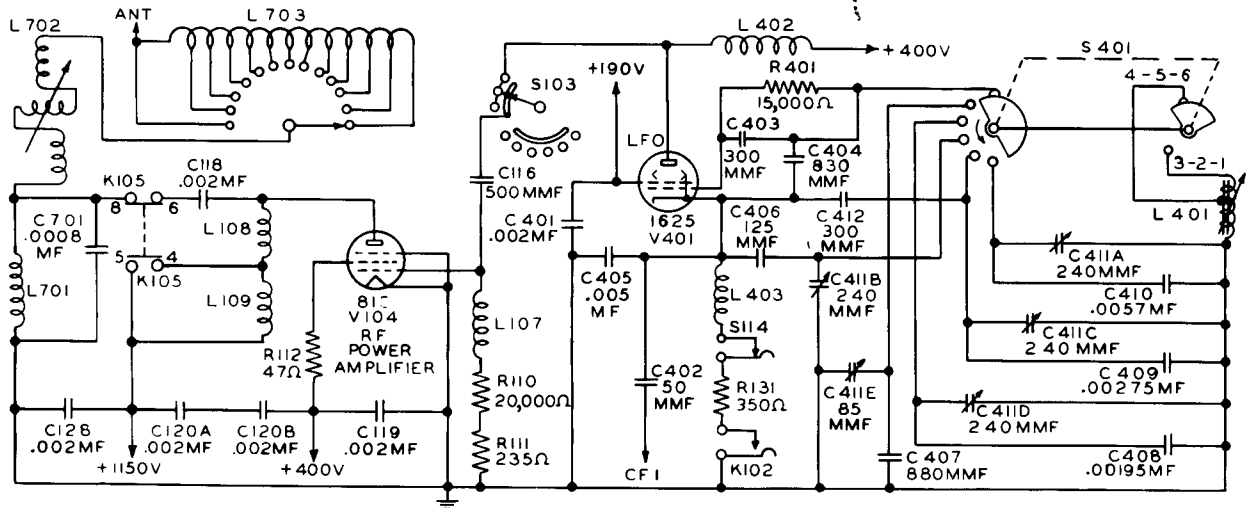

Figure 4-12. Low Frequency RF-Circuits in installations Using LFO O-16/ART-13
a. LOW - FREQUENCY CIRCUITS. — The LF oscillator which operates in the frequency range 200 kc to 1500 kc, employs a Type 1625 beam pentode tube, V401. This frequency range is covered in six bands. Refer to the oscillator calibration curves, Section VI, figure 6-1. for the frequency coverage of the individual bands. A combination of capacitive and inductive grid tuning is employed. The LF oscillator COARSE tuning switch, S401, varies the grid circuit capacity by increasing the number of padding capacitors connected in the circuit as the switch is rotated toward the lowest frequency position. Refer to figure 4-12. LF oscillator COARSE tuning switch S401 also changes the tap on the LF oscillator grid inductor L401 to vary the inductance in the grid circuit. Trimmer capacitors have been connected in parallel with the padding capacitors to provide means of fine adjustment of grid circuit capacity. These trimming capacitors are of the ceramic type and the capacity of each may be varied by rotating